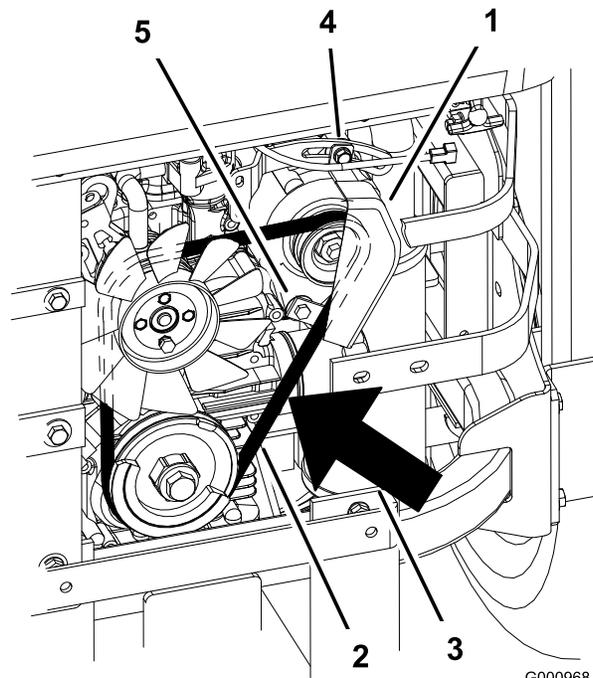

Figure 65
7. Loosen the bottom bolt and remove the upper bolt holding the alternator and cover (Figure 65).
9. Install a new belt around the pulleys and the alternator (Figure 65).
14. Tighten the bottom bolt and install the upper bolt holding the alternator and cover (Figure 65).
2. Adjust the alternator to the outside until there is 1/4 to 11/32 inch (7 to 9 mm) deflection in the belt between the engine and the alternator pulleys with 22.1 lbs of force (10 kgf) (Figure 65).
5. If the deflection is correct, tighten the bottom and upper bolt (Figure 65).